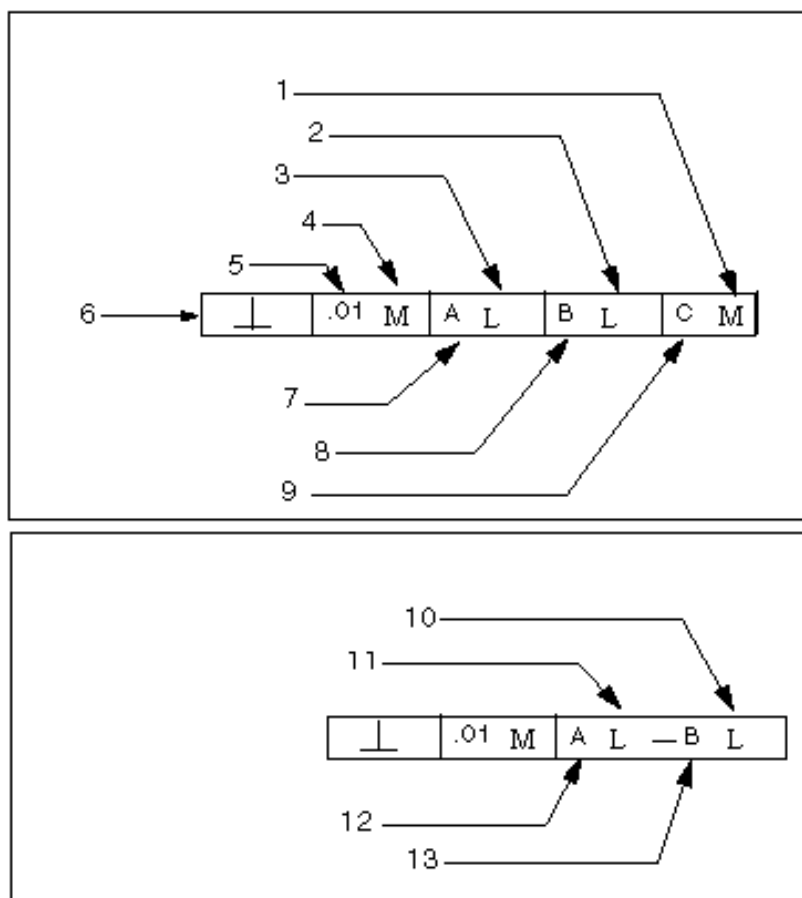

Figure 6 Geometric tolerance layout
- Tol value: set up value for the annotation (nr 5 in figure 6).